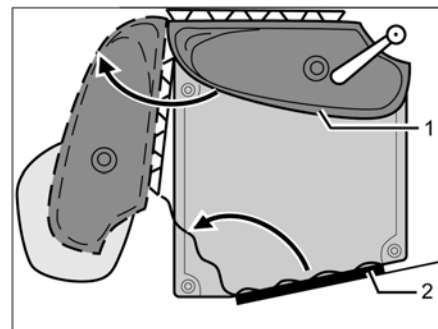

Fig. 345 Vario toilet
- Turn the wash basin and the rear wall (Fig. 345,1) in the direction indicated.
- Enter the toilet compartment and close the toilet door (Fig. 345,2) from the inside and lock.